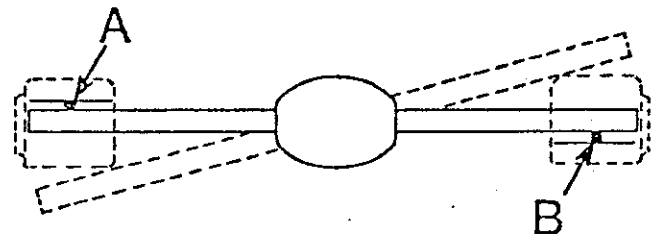

Figure 12
2. Each blade tip must strike the bumper in each jaw simultaneously when closing. (Figure 12) -- If a jaw appears to receive the blade tip early or late, use the jack screws to tilt the jaw insulator toward or away from the blade tip as required.